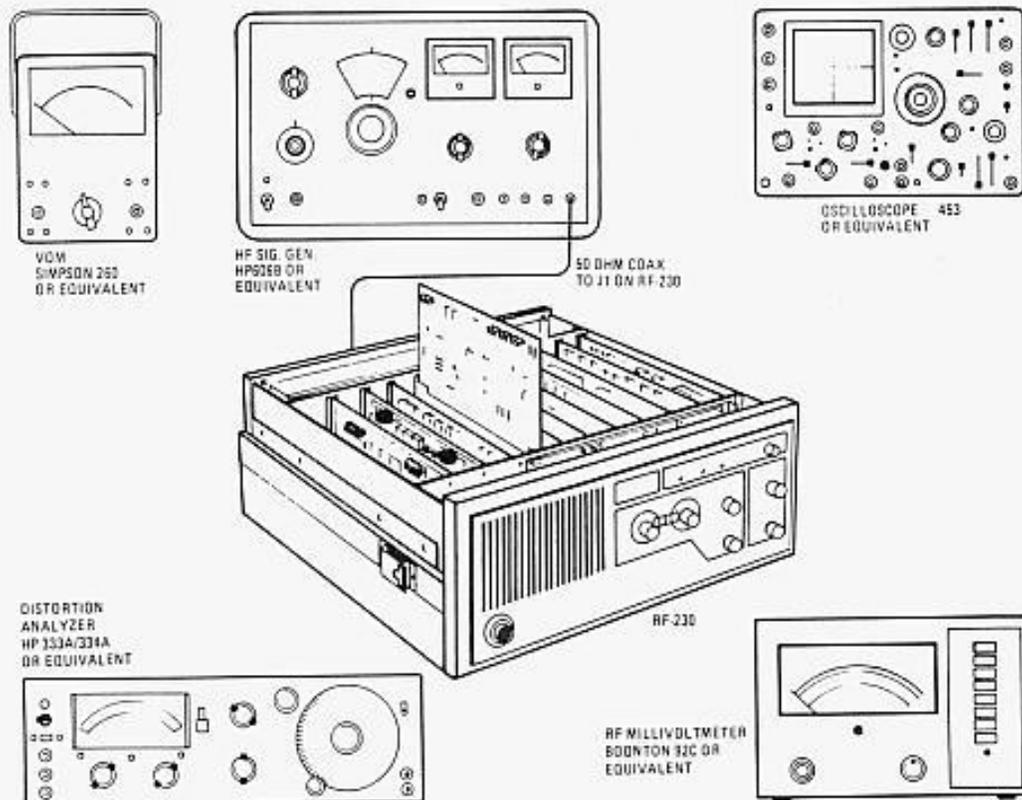

Figure 2. 1A1A4 Test/Setup
Figure 2 demonstrates test equipment typically required to make all 1A1A4 maintenance or setup adjustments.
a. Assemble required test equipment and set-up for test as shown in figure 2, with RF Signal Generator connected to RF-230 J1 input, and measuring equipment available for use as directed.